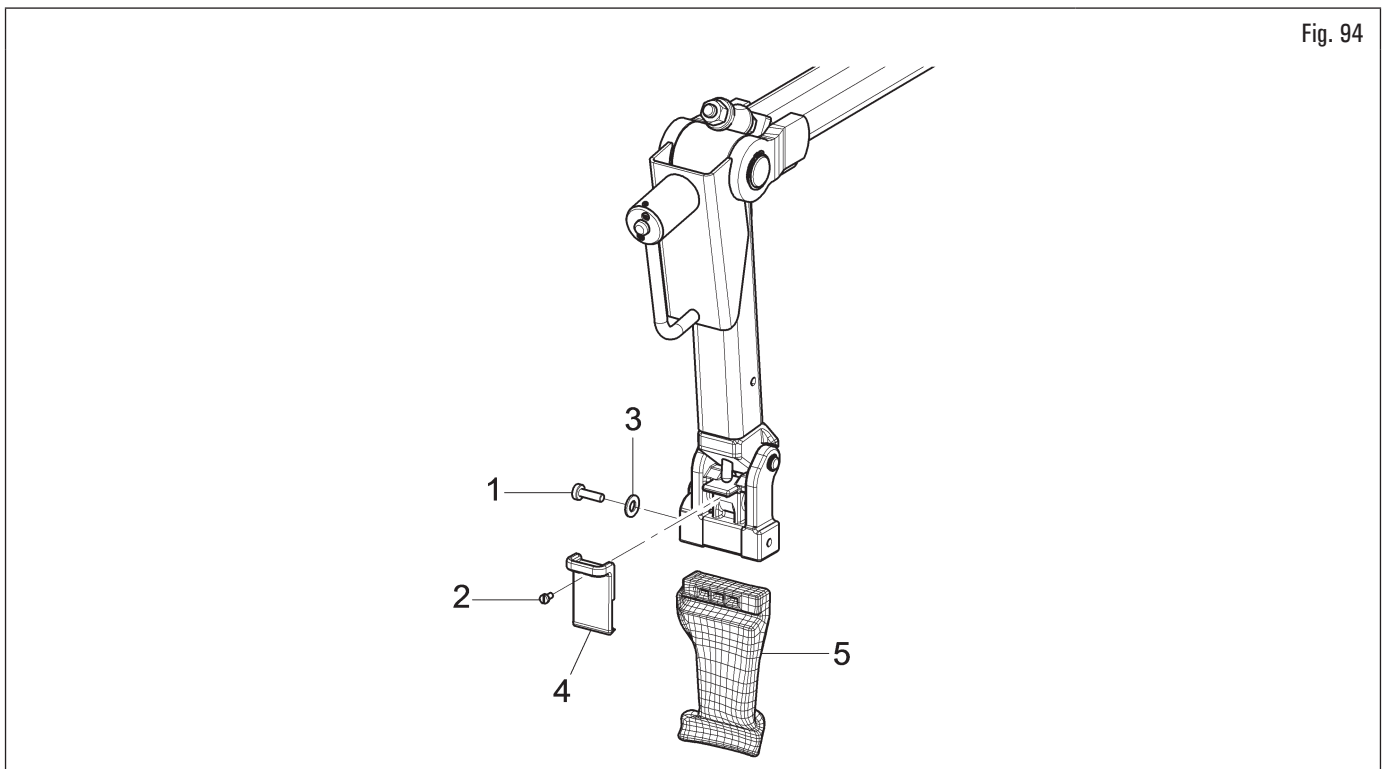

Fig. 94
Remove the bolts (Fig. 94 ref. 1 and 2), the washer (Fig. 94 ref. 3) and the tool support protection (Fig. 94 ref. 4).
Replace the toolhead (Fig. 94 ref. 5) and reassemble the previously removed parts.